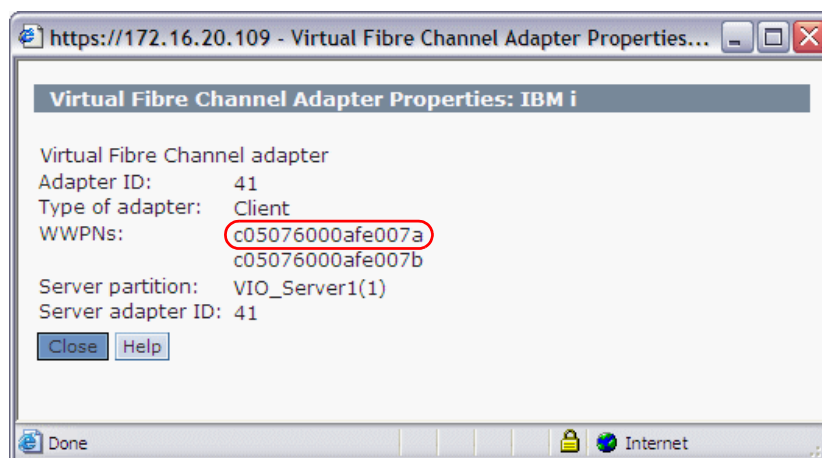

Figure 16-23 Virtual Fibre Channel client adapter properties
- ii. Figure 16-23 shows the properties of the virtual Fibre Channel client adapter. Here you can get the virtual WWPN that is required for the zoning.